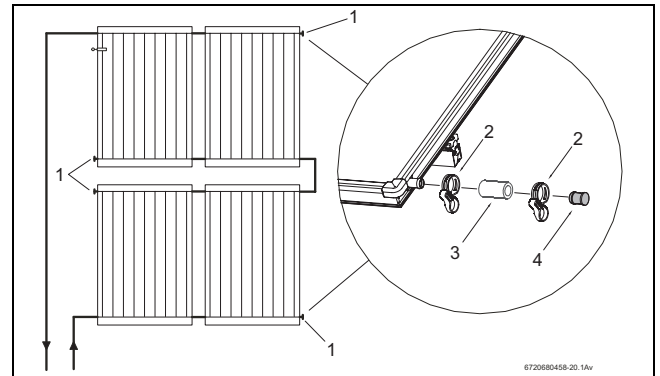

Fig. 57 Mounting the pre-assembled dummy plugs
Use a dummy plug to close the collector connections which will not be used (Fig. 57, [1]).
- ▶ Insert the 55 mm solar hoses (Fig. 57, [3]) with the pre-assembled dummy plug in the two free connections.